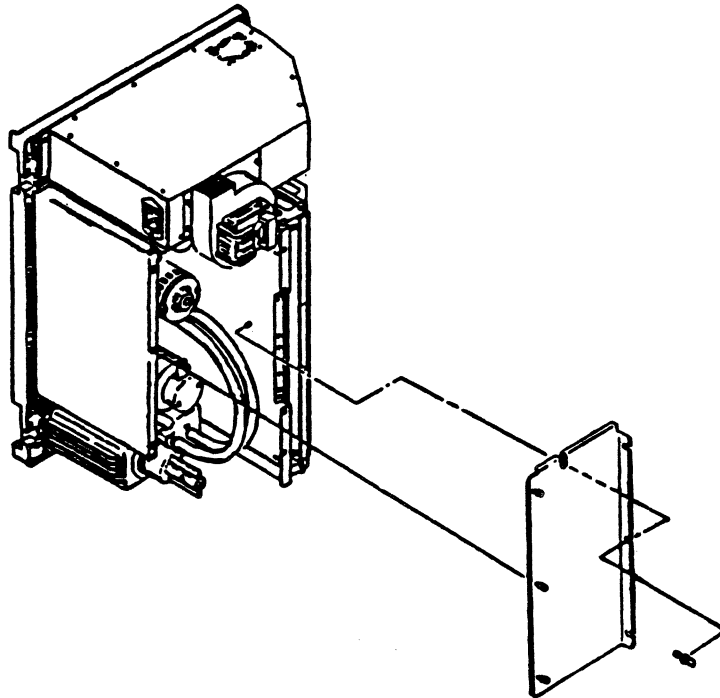

Figure 6-8. Drive Cover Removal
2. Loosen the nuts and the screws securing the cover and remove the drive cover assembly (figure 6-8). (The drive cover assembly consists of the drive cover with attached foam strips and grommet.)